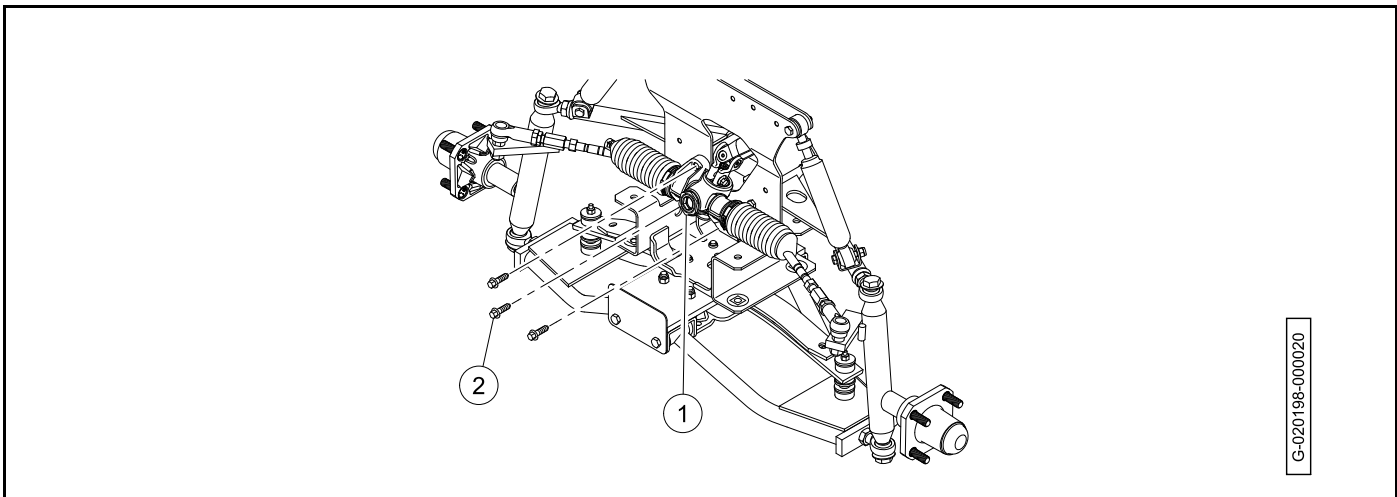

Figure 7-45
- Install the control arm bolt (2). Tighten the bolt to 30 lb·ft (41 N·m).
- Install the bolt (3) and nut (4). Tighten the bolt to 29 lb·ft (39 N·m). See detail B.
- Install the tapered washer (5) with the tapered end opposite of the bolt (6). See detail C.
- Install the bolt into the top of the spindle (7). Tighten the spindle bolt to 118 lb·ft (160 N·m).
- Move the rack and pinion (1) into position (**Figure 7-45**).